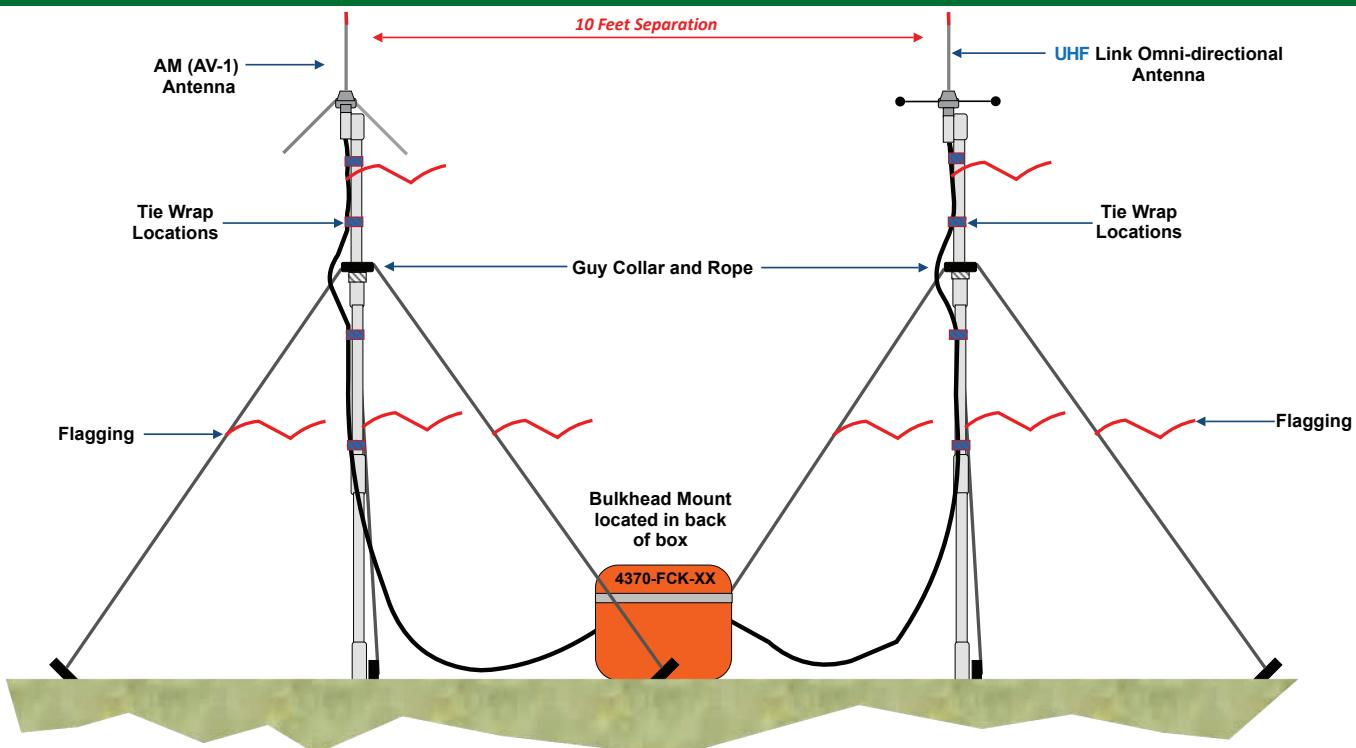

Figure 1:
- Setup the AV-1 (**AM**) Antenna according to the illustration. (**See Figure 1**)
- Setup the **UHF** omni-directional antenna according to the illustration. (**See Figure 1**)
2. Coaxial Cable (**See Figure 1**)